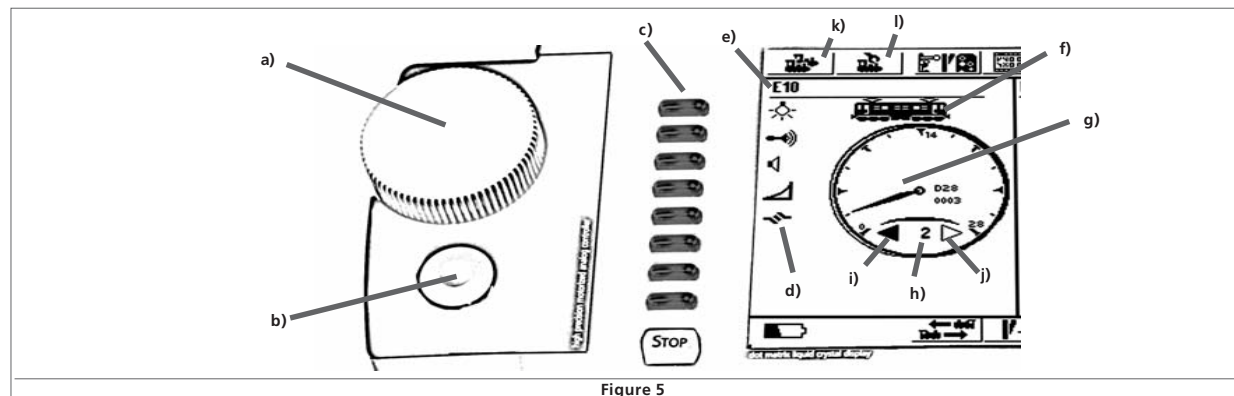

Figure 5
Each throttle consists of several components as shown in Figure 5 above:
- Turn the throttle to the right and watch the locomotive move. The speedometer needle shows the current speed at all times; at the same time the speed step is displayed as well (refer to Figure 5 h).